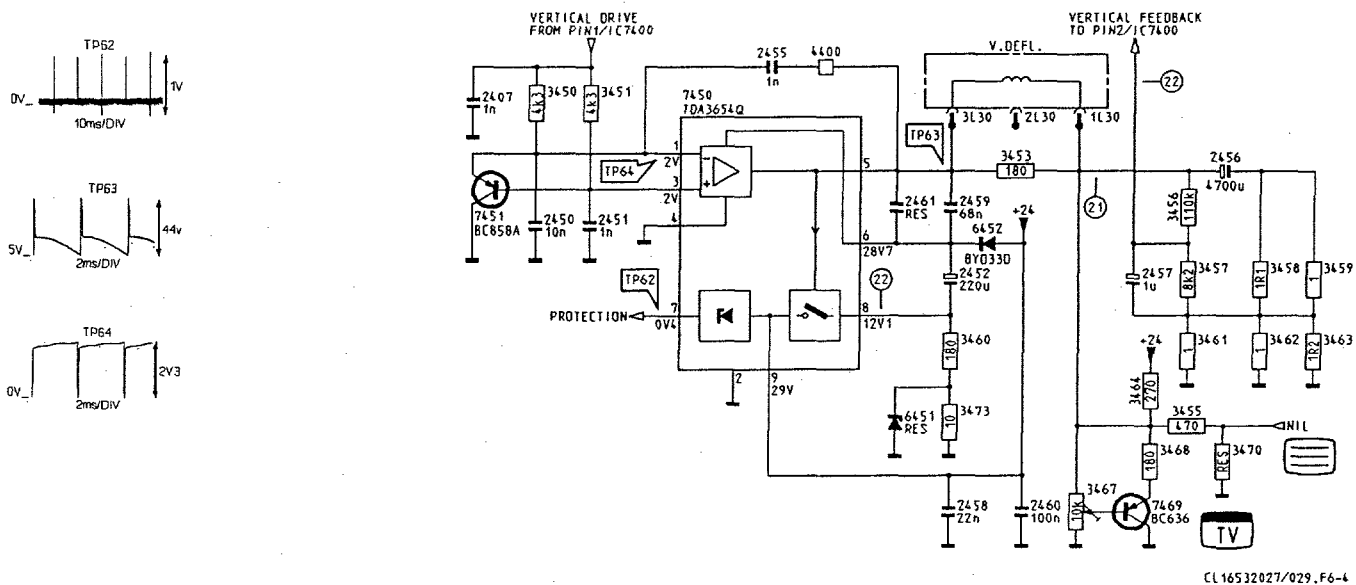

Fig. 6.4
6.2 The frame output stage (fig. 6.4)